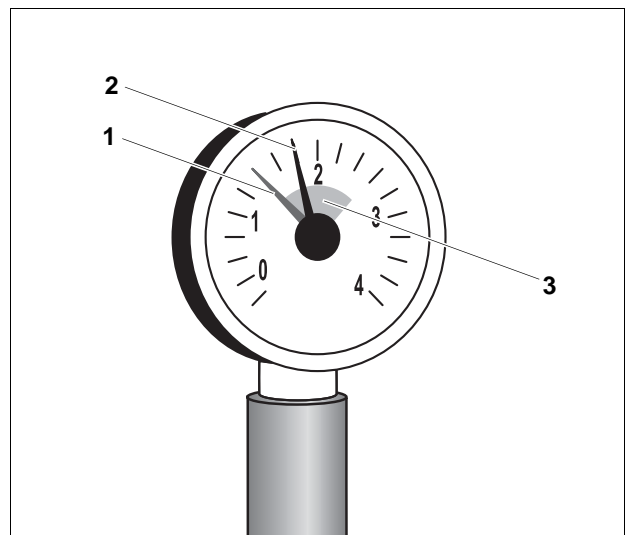

Fig. 5 Pressure gauge for sealed systems (in bars)
On sealed systems the pressure gauge needle (Fig. 5, **item 2**) must be within the green range (Fig. 5, **item 3**). Set the red needle (Fig. 5, **item 1**) on the pressure gauge to the required system pressure.
- The water pressure in the system is too low, if the pressure gauge needle falls below (Fig. 5, **item 2**) the green range (Fig. 5, **item 3**). Re-fill the heating system with make-up water (see Chapter 3 "Using correct fill and make-up water", page 7).